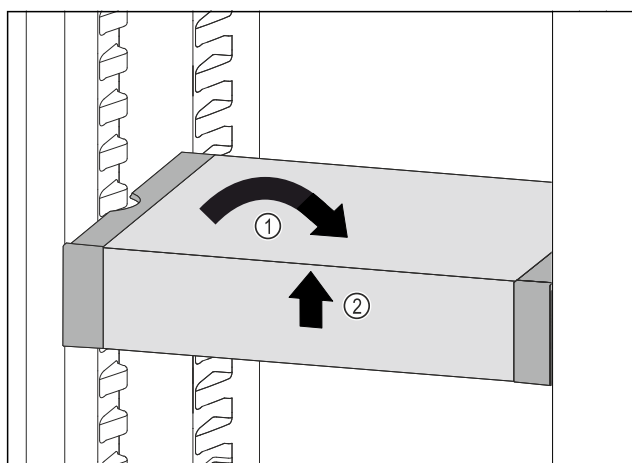

Fig. 84
- Set VarioSafe straight. Fig. 84 (1)
- Lift VarioSafe at the front. Fig. 84 (2)